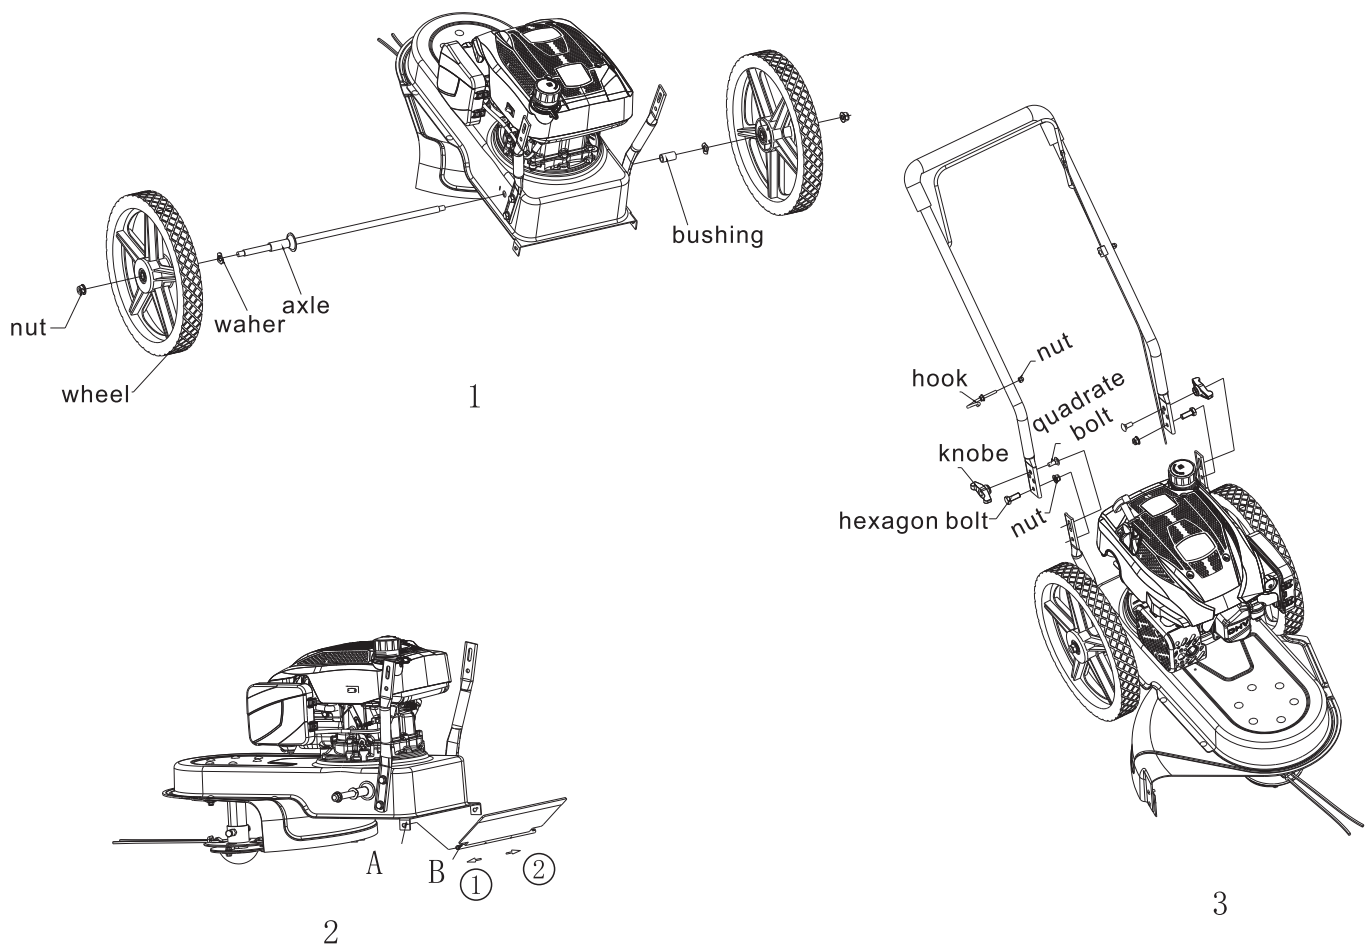

Figure 3-1
- 2、Assembling the fender; align A and B then follow step ①②;
- 3、Assembling the handle. See Figure 3-1.